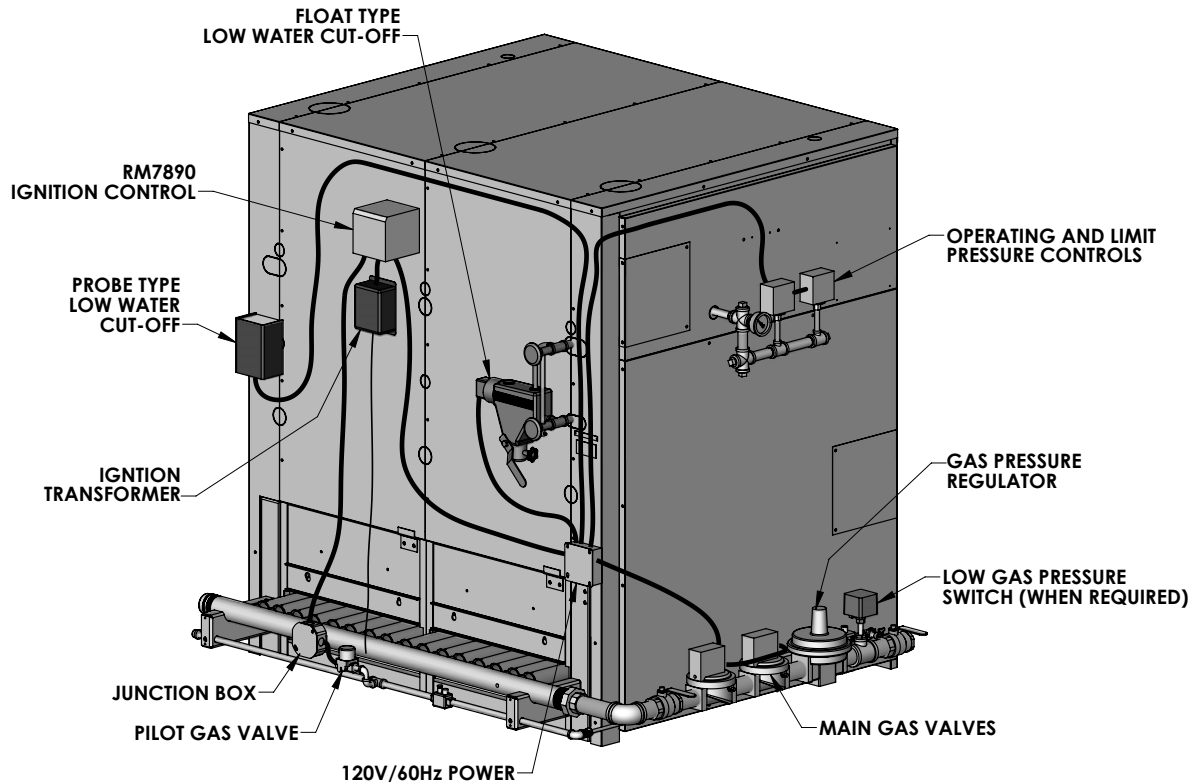
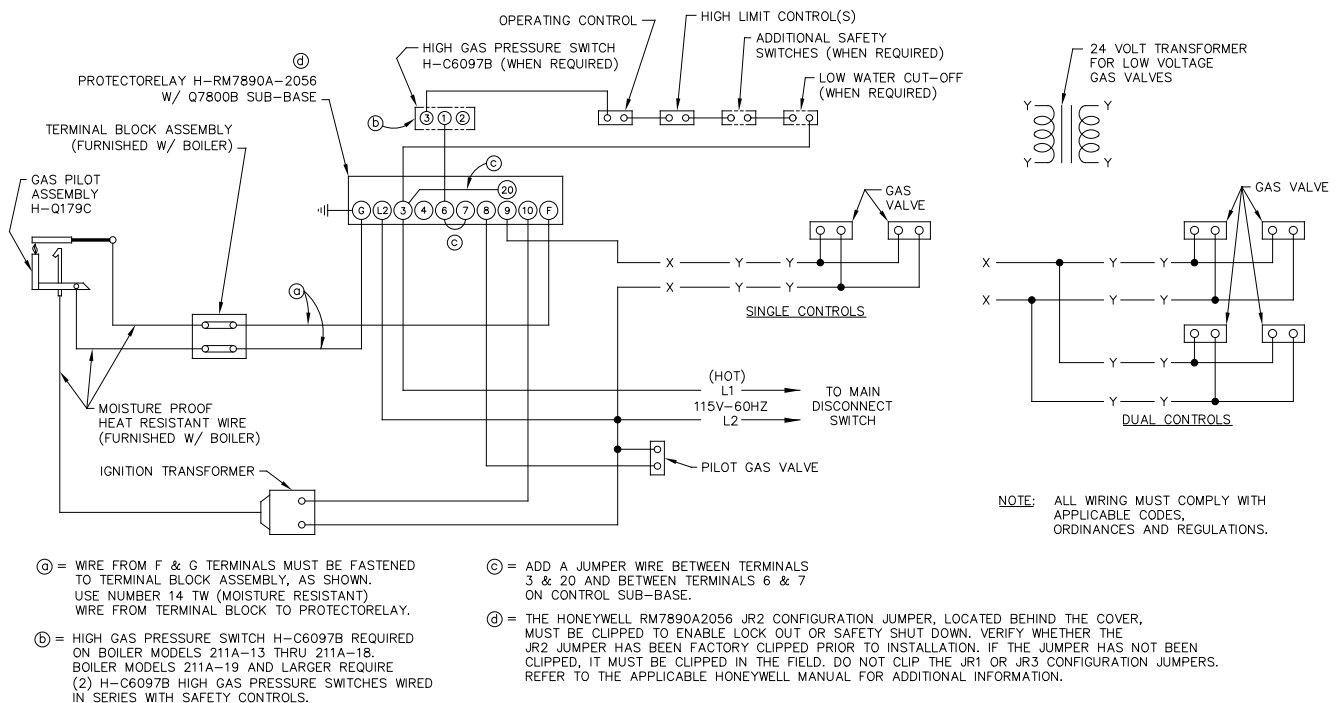

Figure 9.1: Typical Control Layout and Wiring - E*-E Ignition
Figure 9.2: Typical Wiring – E1-E Ignition System
See Figure 9.1.
1. Wire the boiler according to the wiring diagram supplied with the boiler (in the Control Envelope). Figure 9.1 is a typical layout of the components on the boiler. Figure 9.2 is an example of a standard wiring system. Use this drawing for general reference only.